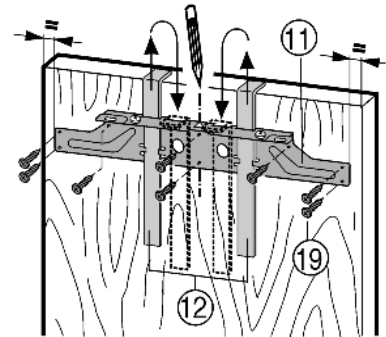

Fig. 18
- Hang the crosspiece Fig. 18 (11) on the inside of the unit door using the fitting aids Fig. 18 (12). With a 23-5/8 " (600 mm) wide recess:
- Align the crosspiece Fig. 18 (11) to the middle of the door.
- Secure the crosspiece Fig. 18 (11) with at least 6 screws Fig. 18 (19).
- Secure the crosspiece Fig. 18 (11) with 4 screws Fig. 18 (19) at the edge.
- Lift up fitting aids Fig. 18 (12), turn round and insert into the adjacent openings.